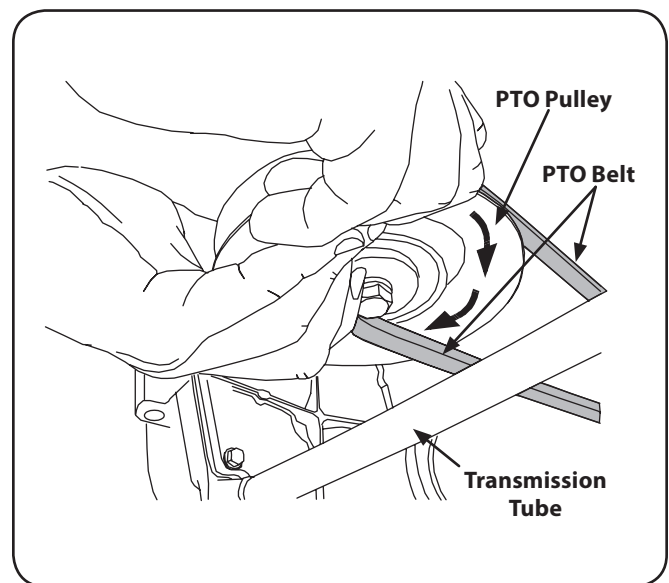

Figure 7-5
4. While still holding the belt downward, continue turning the PTO pulley until the belt rolls off the pulley. Refer to Figure 7-5.
11. Pull the right side of the belt rearward and place the narrow V side of the belt into the PTO pulley. See Figure 7-5.
12. While holding the belt and pulley together, rotate the pulley to the left (See Figure 7-5). Continue holding and rotating the pulley and belt until the belt is fully rolled into the PTO pulley.